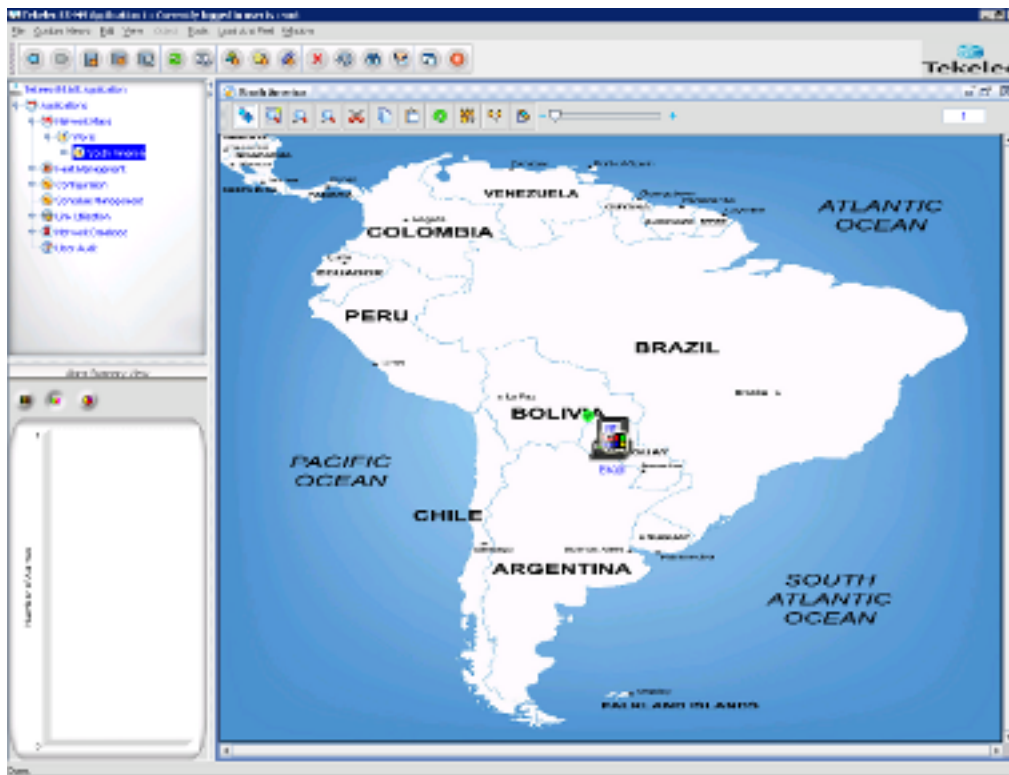

Figure 26: Continent Level Map
- *Figure 26: Continent Level Map*